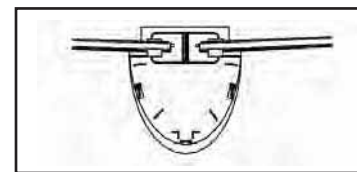
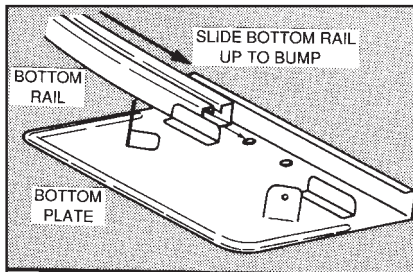

Fig. 34
Fig. 33
- B) The four 39" bottom rails are for the "corners." One side snaps into the straight side connector on the final straight side upright, while the other side slides into a bottom plate or bottom cuff as shown in Fig.33 or Fig.34.